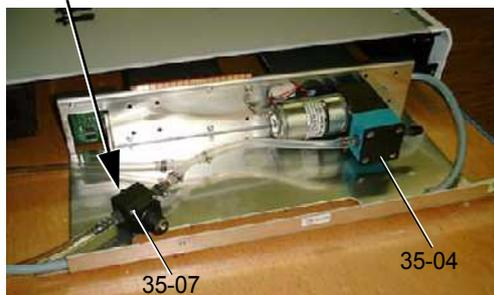

Figure 6-40 Pressure relief valve
- 2 Remove the tubing from the FaWa pump (35-04, Figure 6-40).